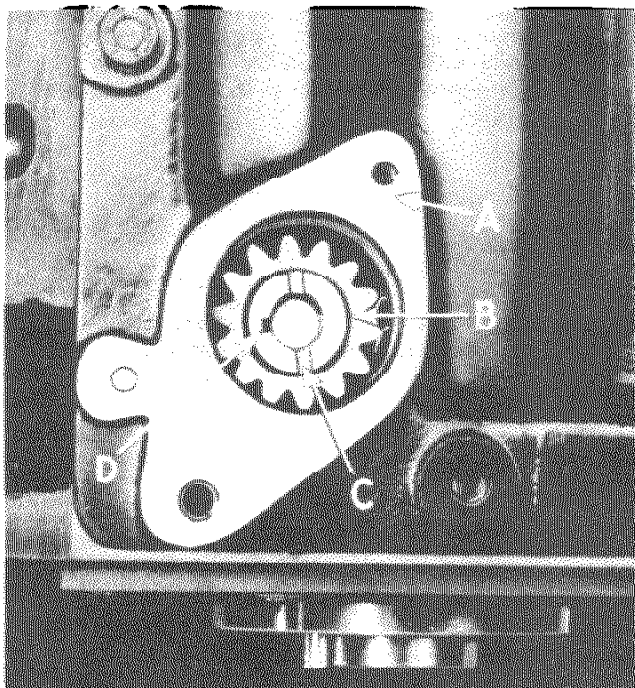

Figure E29
- (i) With the timing chain cover in situ. The crankshaft is set so that No. 1L piston is at the ignition point i.e. the crankshaft damper mark aligning with the R.H. side of the indicator on the front of the timing chain cover and both valves of No. 1L cylinder closed. The gear and shaft assembly is fed through the tappet block and cover to mesh with the camshaft gear so that the groove in the top face of the gear is almost parallel to and offset toward the centre of the engine unit. Fig. E29.
IGNITION DISTRIBUTOR DRIVE Figs. E29 and E31